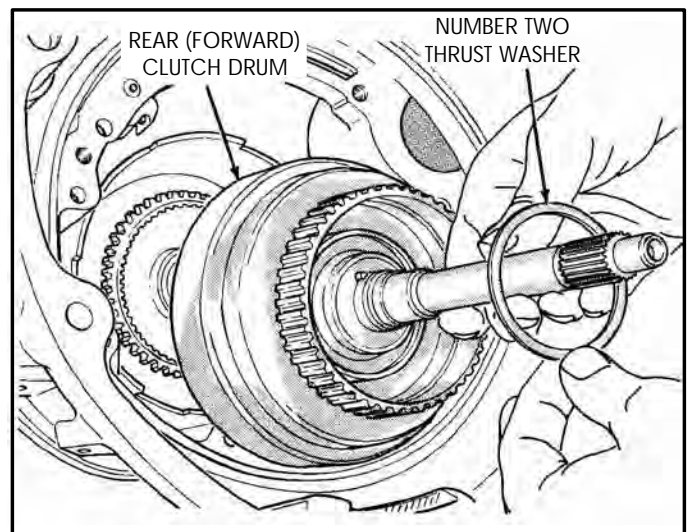

Figure 229
12. Install the pre-assembled rear (forward) clutch housing, as shown in Figure 229, twisting back and forth to engage forward clutch plates, until fully seated.
13. Install the number 2 thrust washer, as shown in Figure 229.